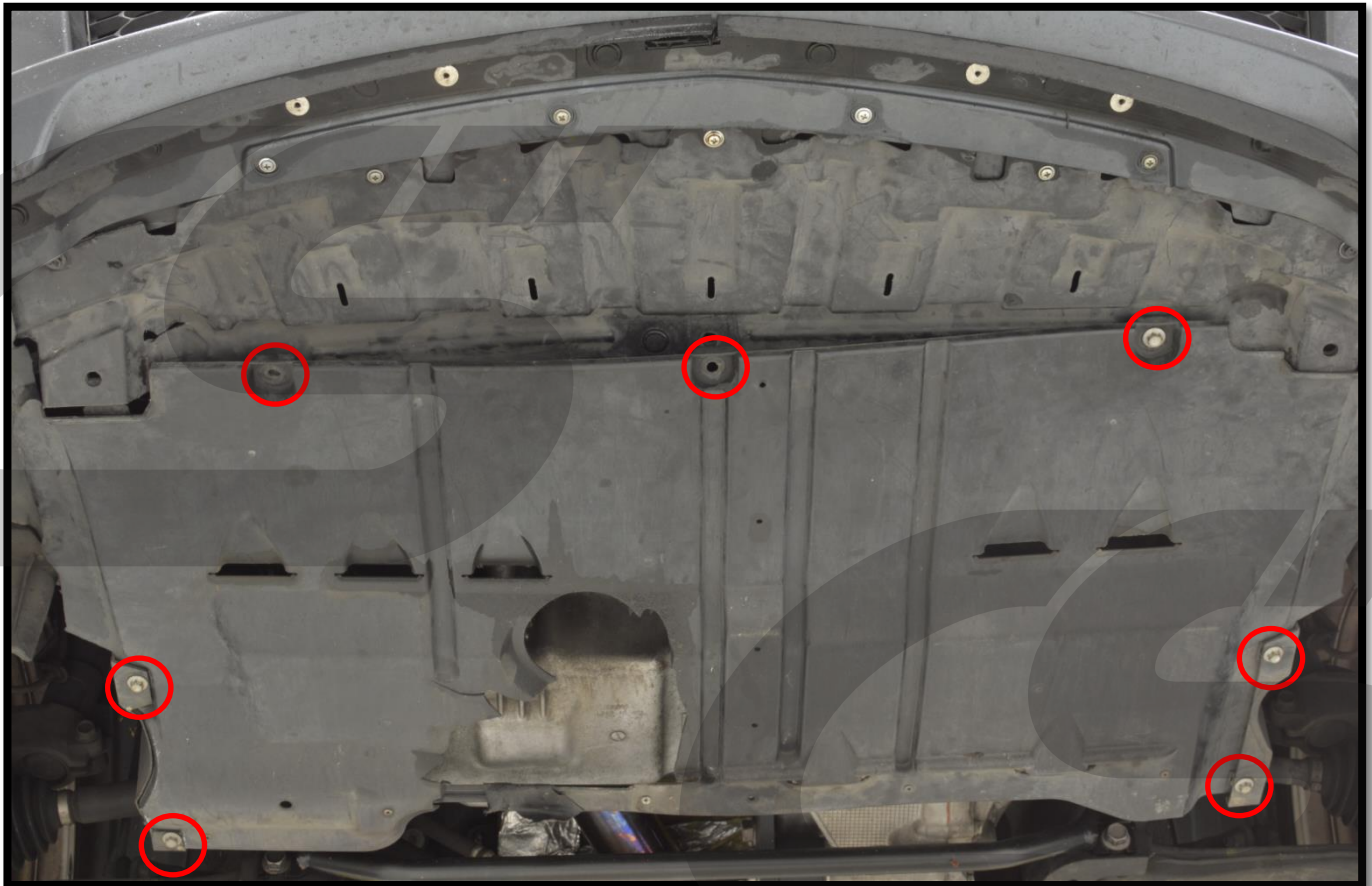

Figure 2a
- a) Using a 10mm socket, remove seven (7) bolts attaching the rear section of the plastic undertray. **Circled in red** in Figure 2a. Then remove the rear section of the undertray.